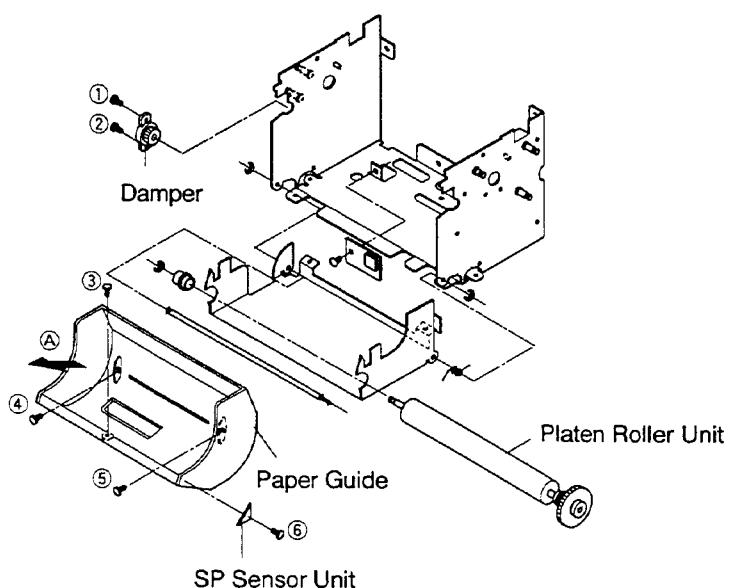

Fig. 12
2. Remove 2 screws (① and ②) securing the Damper shown in Fig. 12 and remove the Damper.
3. Remove 3 screws (③, ④ and ⑤) securing the Paper Guide shown in Fig. 12 and remove the Paper Guide in the direction of the arrow A.
4. Remove 1 screw (⑥) securing the SP Sensor Unit shown in Fig. 12.